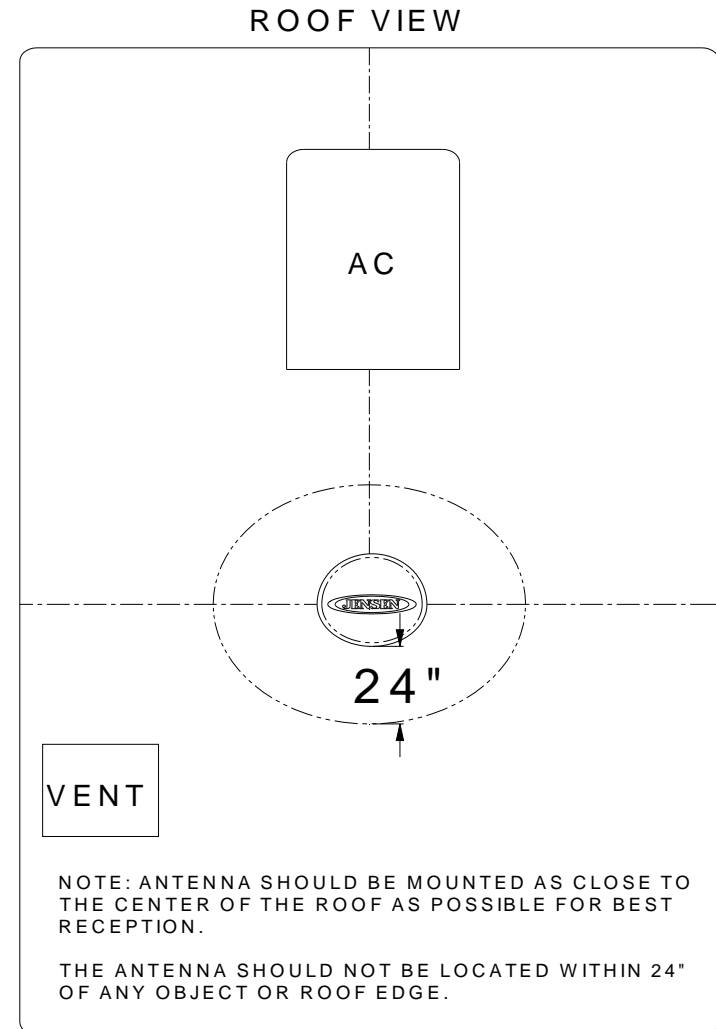

FIGURE 1
3. Determine a suitable location to mount the antenna. This location should allow for approximately 24" of clearance around the antenna. Avoid close proximity to other roof mounted objects (AC, Vents, & Roof Edges). See Figure 1 below.